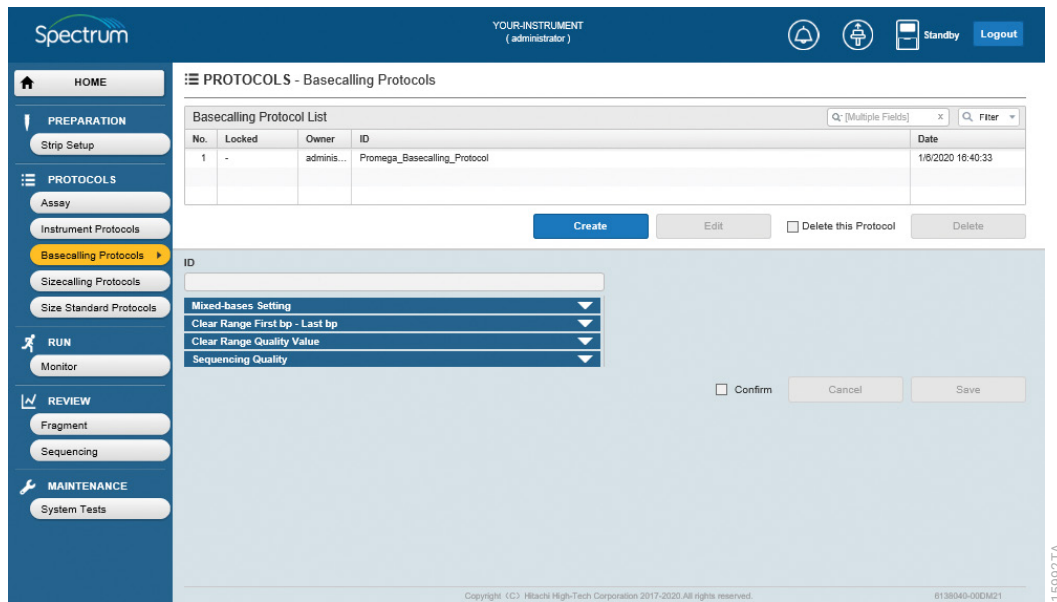

Figure 44. Searched and filtered basecalling protocols.
- The basecalling protocols that meet the desired search and filter parameters are displayed at the top of the Basecalling Protocol List (Figure 44).